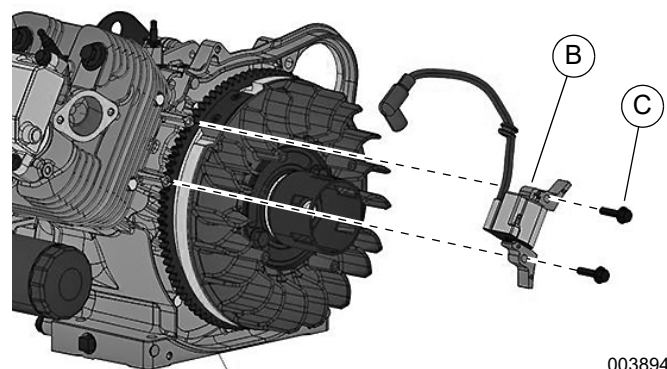

Figure 14-61. Install Ignition Coil
- See **Figure 14-61**. Install ignition coil and spark plug wire assembly (B) on engine at 10 o'clock position above the flywheel when facing flywheel. Use two fasteners (C).